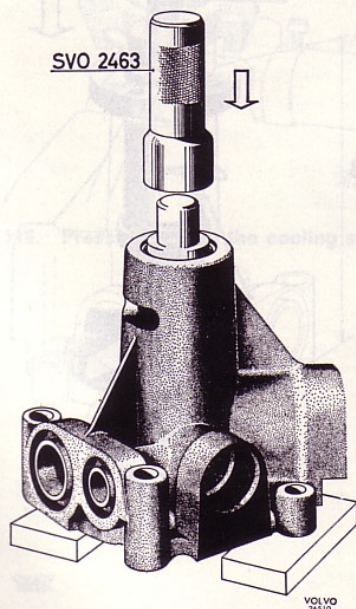

Fig. 113. Removing the shaft and impeller
3. Place the pump in a press. Fit drift SVO 2463 on the outer ring of the bearing and press out the shaft, the bearing and the impeller. See Fig. 113.
1. Press down the shaft bearing into the housing with drift SVO 2463 in the same way as shown in Fig. 113 and far enough so that the lock wire can be inserted in its groove. Insert the lock wire.